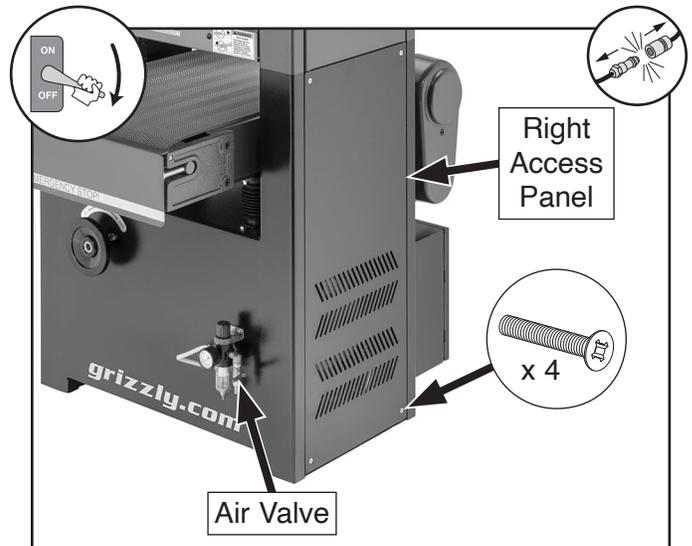

Figure 83. Location of air valve and right access panel.
2. Disconnect machine from air, then release all air pressure in machine by opening air valve on regulator (see **Figure 83**). This will cause disc brake assembly to open, allowing removal.
3. Remove (4) screws shown in **Figure 83** to remove right access panel.